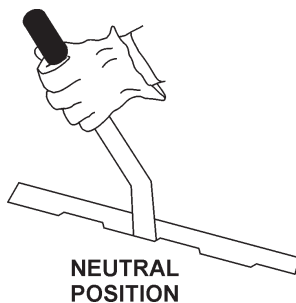

Figure 18. Transmission Control Lever (Neutral)
3. **Place** the transmission lever (Figure 18) in the **neutral position**.